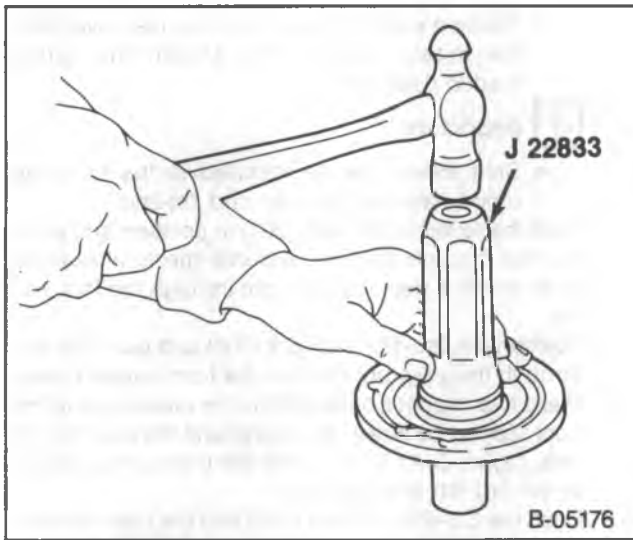

Figure 29 —Installing the Drive Gear Bearing Retainer Oil Seal
- Seal (266), using J 22833. The lip of the seal goes toward the installing tool, (figure 29).